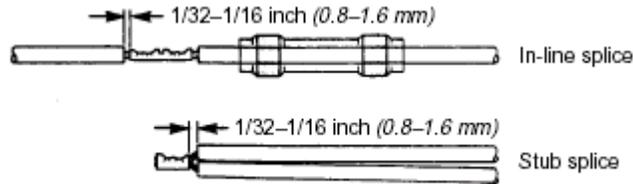

Figure 20-14 Insulation Gap
5. Crimp the wires in the crimp splice as shown in Figure 20-14. The gap between the end of the wire insulation and the crimp splice must be $1/32$ – $1/16$ inch (0.8–1.6 mm).